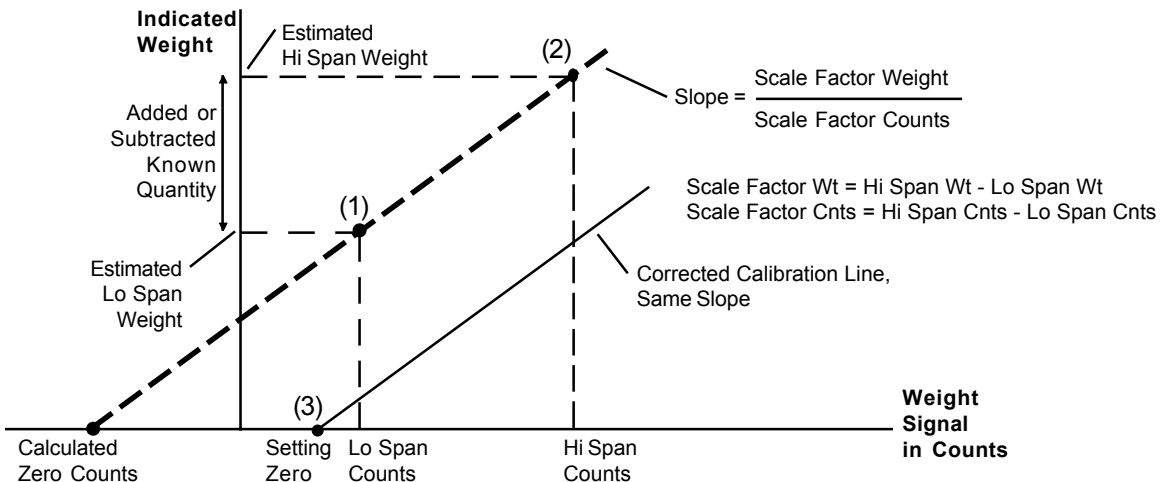

Figure 7-3. Calibration by Adding or Subtracting a Known Quantity of Material
A weight estimated to be the quantity of material in the vessel is entered as the Lo Span weight [point (1) in Figure 7-3]. A known quantity of material, representing at least 25% of the vessel's total capacity, is added to the vessel. The sum of the known quantity plus the estimated quantity is entered as the Hi Span weight [point (2) in Figure 7-3]. The MVS saves in memory the
Lo Span and Hi Span weights as well as the digital counts associated with each weight. These values define the dashed straight line and the calculated zero counts shown in Figure 7-3. The slope of the line is called the Scale Factor, which is calculated internally.
The slope of the line is reasonably accurate, because it is calculated based on the known difference between the Lo Span and Hi Span weights and counts. However, if the estimated Lo Span weight is incorrect, the actual 'location' of the line is incorrect, resulting in errors in channel monitoring. The greater the error in the estimated Lo Span, the greater the resulting error. The 'location' of the line can be adjusted to the solid line by setting zero [point (3) in Figure 7-3] (see *Refining the Calibration by Setting Zero* in this section).
Shifting from the dashed to the solid line in Figure 7-3 is accomplished by setting zero when the vessel contains a known quantity of material (usually none) at a later date. The procedure is described in *Refining the Calibration by Setting Zero* in this section.
A value estimated to be the quantity of material in the vessel is entered as the Hi Span weight [point (2) in Figure 7-3]. A known quantity of material, representing at least 25% of the vessel's total capacity, is removed from the vessel. The estimated Hi Span weight minus the known quantity that is removed is entered as the Lo Span weight [point (1) in Figure 7-3]. The MVS saves in memory the Lo Span and Hi Span weights as well as the digital counts associated with each weight. These values define the dashed straight line and the calculated zero counts shown in Figure 7-3. The slope of the line is called the Scale Factor, which is calculated internally.
errors in channel monitoring. The greater the error in the estimated Hi Span, the greater the resulting error. The 'location' of the line can be adjusted to the solid line by setting zero [point (3) in Figure 7-3] (see *Refining the Calibration by Setting Zero* in this section).